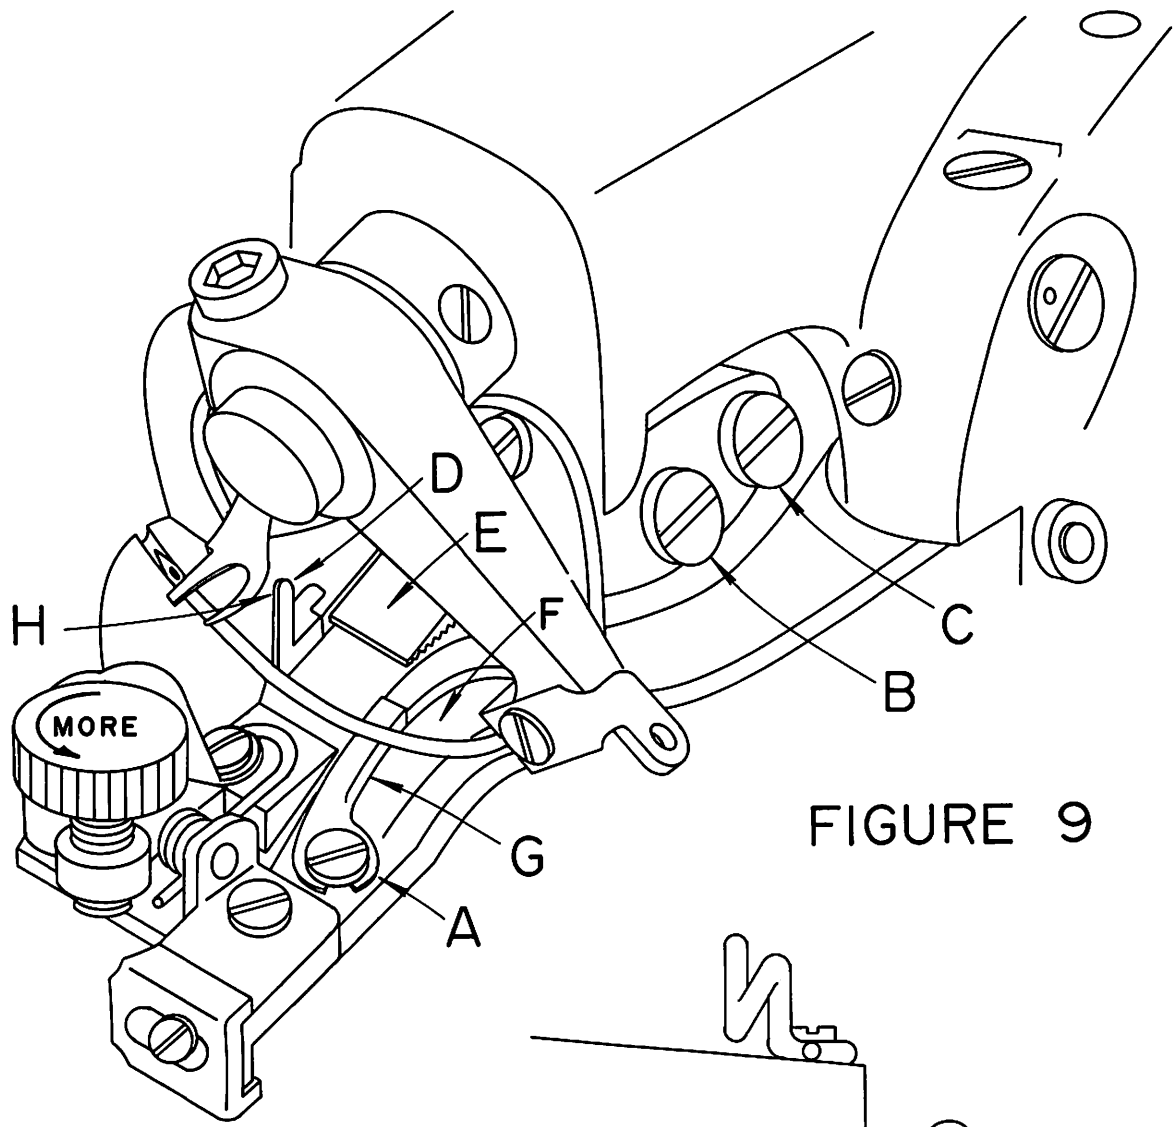
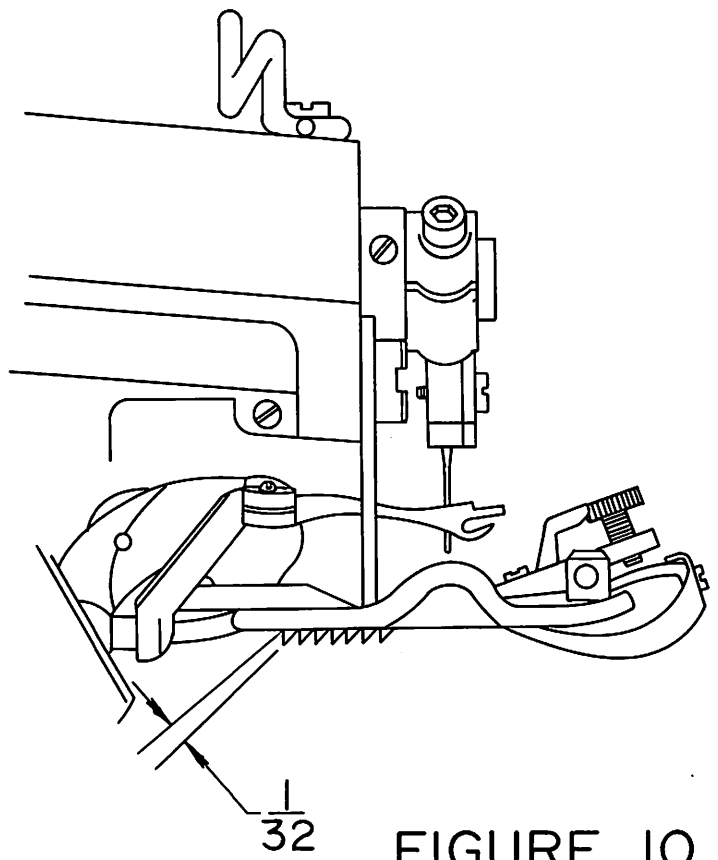

FIGURE 9
FIGURE 10
1. After considerable service, it may be expected that the wearing action of the needle will cause a sharp edged groove to form on the needle guide (Item "G" in Figure 9). This condition can cause thread breakage and uneven penetration. When this happens the guide should be replaced. The needle guide was specifically designed as a readily replaceable wear plate to prevent damage to the presser-foot from the action of the needle.
2. Loosen the needle guide attaching screw (Item "A" in Figure 9) and remove the worn needle guide. Clear out any lint or dirt that may have accumulated under the old guide and insert the new guide. Insure that the new guide is seated flush with the top and side of the presser-foot and then retighten the attaching screw. Slowly turn the handwheel in the direction away from the operator and check to insure that the new guide fits properly under the needle and that no interference has been introduced between the guide and the looper.
1. In the event that the machine develops difficulty by failing to properly feed the work, a worn feeder is frequently found to be the cause. After considerable service, especially with certain hard fabrics, the feeder teeth have a tendency to become dull, and the feeder should be replaced. In order to remove the old feeder, remove the front feeder attaching screw (Item "B" in Figure 9) and loosen the rear feeder attaching screw (Item "C" in Figure 9). The old feeder may then be slid out of place. Insert the new feeder under the rear screw and replace the front screw.
2. Before tightening the attaching screws, check to see that the feeder is set to the proper depth. Referring to Figure 10, this should be approximately $1/32"$ (.795MM) below and parallel to the bottom of the presserfoot for all light and medium weight fabrics. For heavy fabrics, the setting should be approximately $1/16"$ (1.59 MM) below and parallel to the bottom of the presserfoot. These dimensions are intended as guides and may be modified as required by the specific fabrics. Once the proper depth is established, rotate the handwheel slowly in a direction away from the operator and check to insure that the feeder clears the looper (see Figure 9, Point "H") and also clears both sides of the feeder slot in the presserfoot. Firmly tighten feeder attaching screws (Figure 9, Items "B" and "C") before resuming sewing.